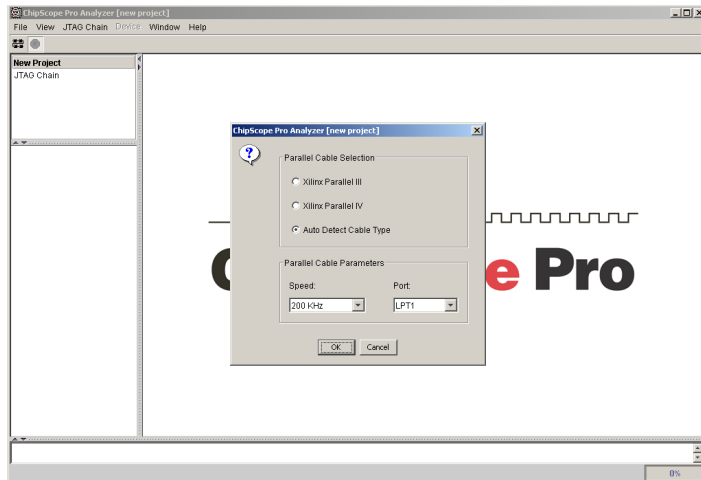

Figure 23
35. Select “JTAG Chain”, Xilinx Parallel Cable from the menu bar and click on OK (Figure 23).